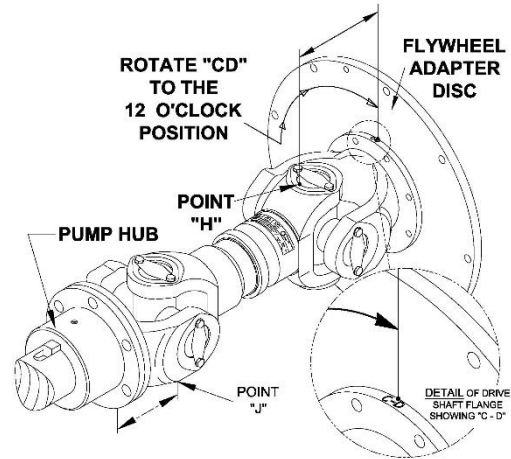

Figure 2-5
2.4.3.3.1. Rotate the shaft 90° so the reference "CD" on the flywheel adapter disc or the circumference of the drive shaft flange (against the flywheel) is in the position shown on Figure 2-5.